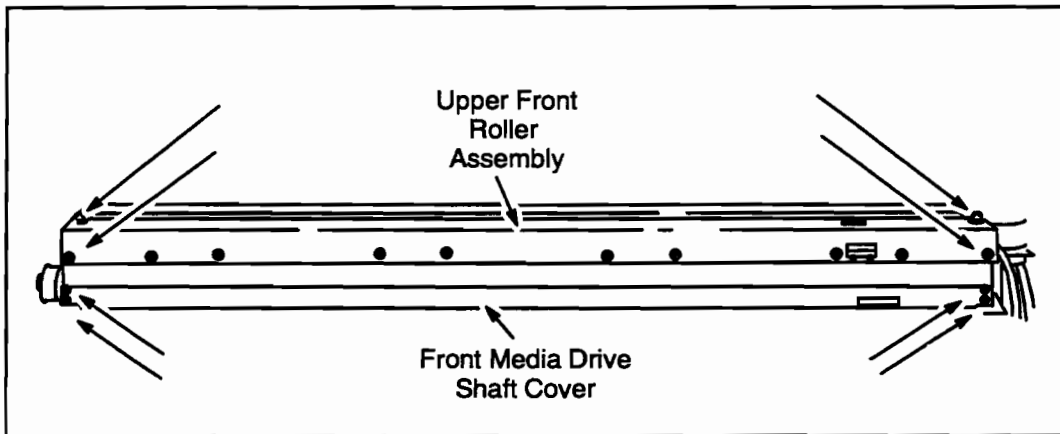

Figure 6-83. Front Roller Assembly
1. Switch the plotter OFF (O) and disconnect the ac power cord and interface cable.
4. Remove the 4 screws securing the upper front roller assembly to the cutter and lift the assembly from the plotter. See Figure 6-83.
6. Remove the 4 screws securing the upper front roller assembly to the cutter. See Figure 6-83.
8. Remove the 4 screws holding the front media drive roller cover in place. See Figure 6-83.